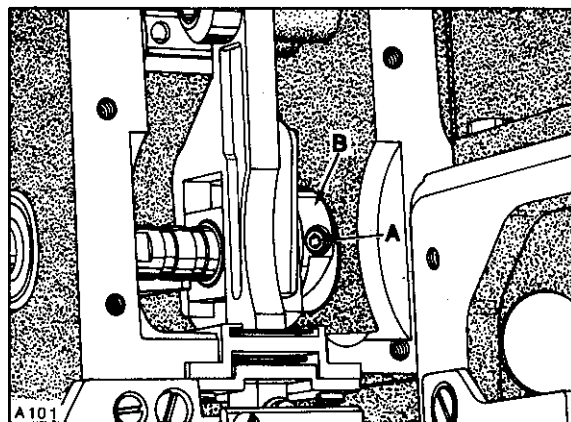
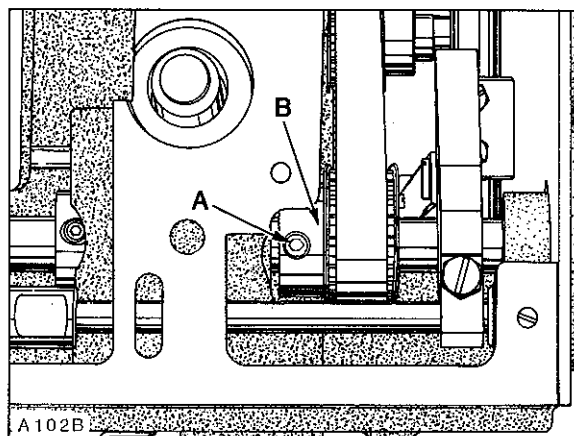

Fig.2
Fig.3
This can be accomplished by removing top cover, head cover, left cloth plate, and top feed chamber cover. Rotate handwheel in operating direction to position needle bar at bottom of stroke. At this time, the first screw (A, Fig. 2) in the feed drive eccentric (B) must be on the flat of the feed drive shaft and in a vertical position. Adjustment can be made by loosening two screws (A, Fig. 3) in upper mainshaft sprocket (B). Hold the handwheel firmly with needle bar at bottom of stroke and rotate pulley as required to position screw (A, Fig. 2) so it is vertical. Torque screws (A, Fig. 3) to 55 in-lbs. (63 cm/kg).